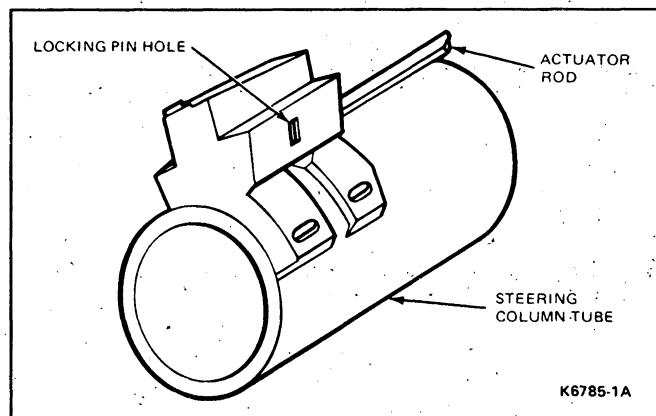

FIG. 3 Locking Pin Hole Location
1. Rotate the ignition key back and forth to either side of lock, until a 1.98mm (5/64-inch) drill bit can be inserted through the lockpin hole as far as possible (minimum 9.5mm (3/8 inch)). The lockpin hole is located on the right of the switch next to the steering column tube (Fig. 3).